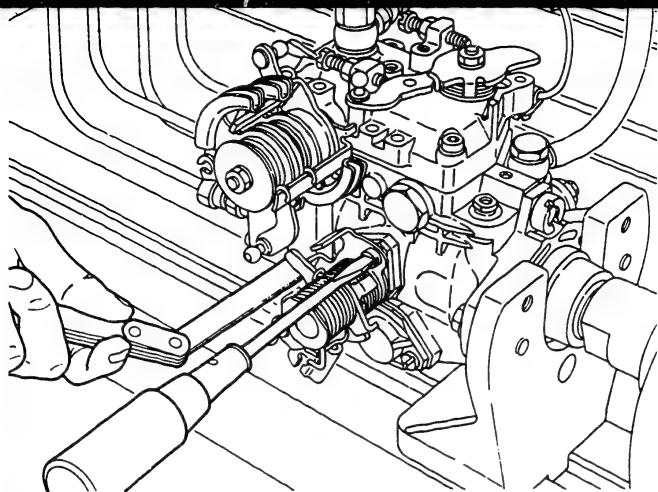

Fig. 185 Adjusting the stopper position
2. While holding the lever shaft's ball pin against the roller holder with the timer stroke at zero, adjust the stopper position using the screw in the elongated slot so that the distance between the stopper and the M-C.S.D. is as specified. Then, fix the stopper in the above position by tightening the screws and confirm the above measurement by moving the manual-cold start device two or three times. (Fig. 185)